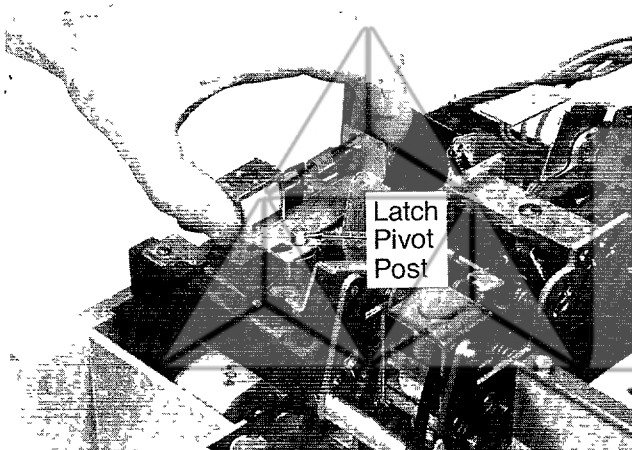

Fig. 5
- Position the UVR assembly mounting bracket so that its retaining hole engages the latch pivot post as shown in Fig. 5.